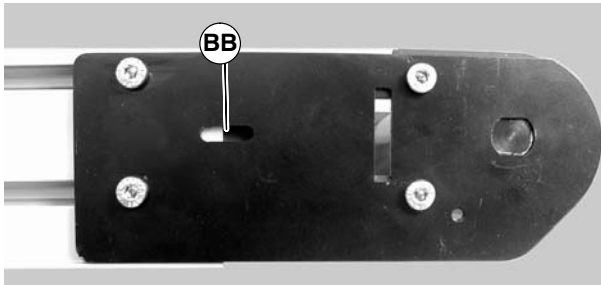

Figure 40
3. Extend head plate assembly until proper tension in the belt is achieved. If proper tensioning can not be obtained before the belt life indicator is all black (BB of Figure 40) the belt must be replaced.